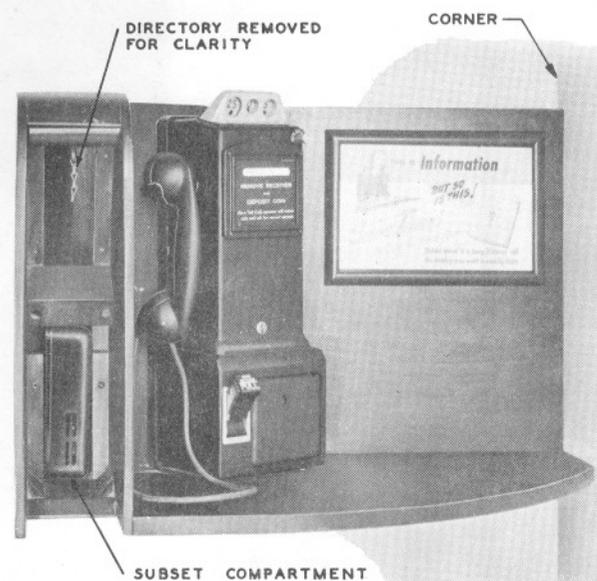

Fig. 19 - Corner Mounting 19A Shelf
13.06 When installed in a corner, the narrow end should face the wall as shown in Fig. 19.